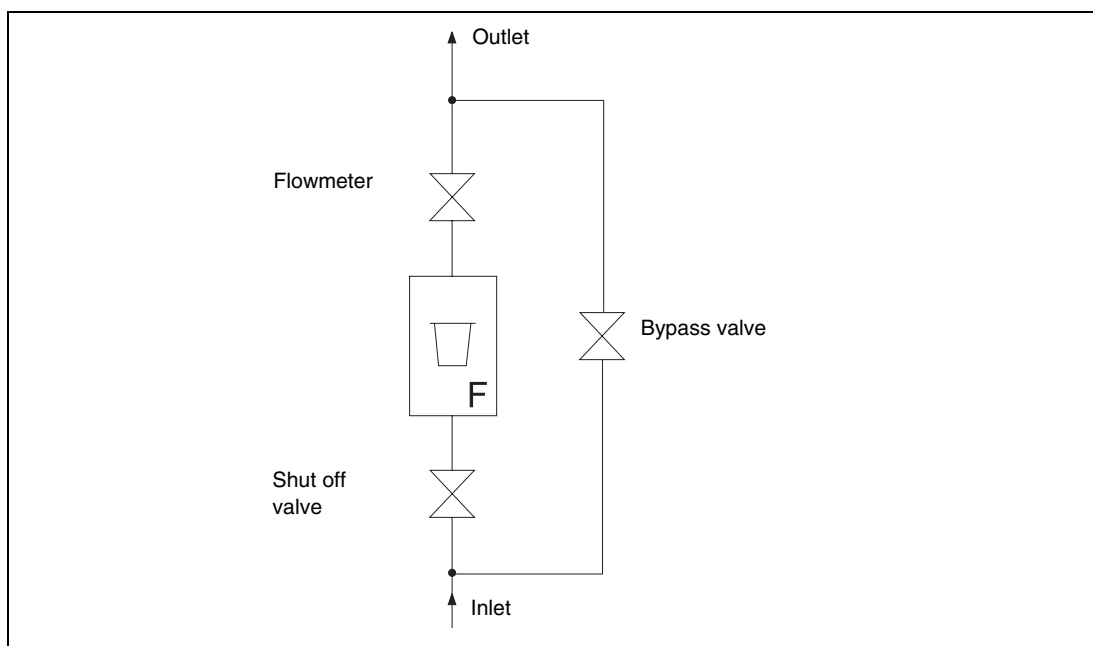

Fig. 3: Installation Example
- When the flowmeter is to be installed in a pipeline in which interruption of service is undesirable or impossible, a bypass line should be installed as shown in Fig. 3.